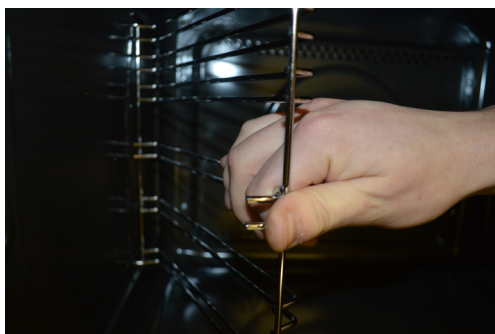

Fig. 8
- Tilt the shelf support outwards (Fig. 8) and you should then be able to remove the shelf support arms that secure it into the cavity walls at the back